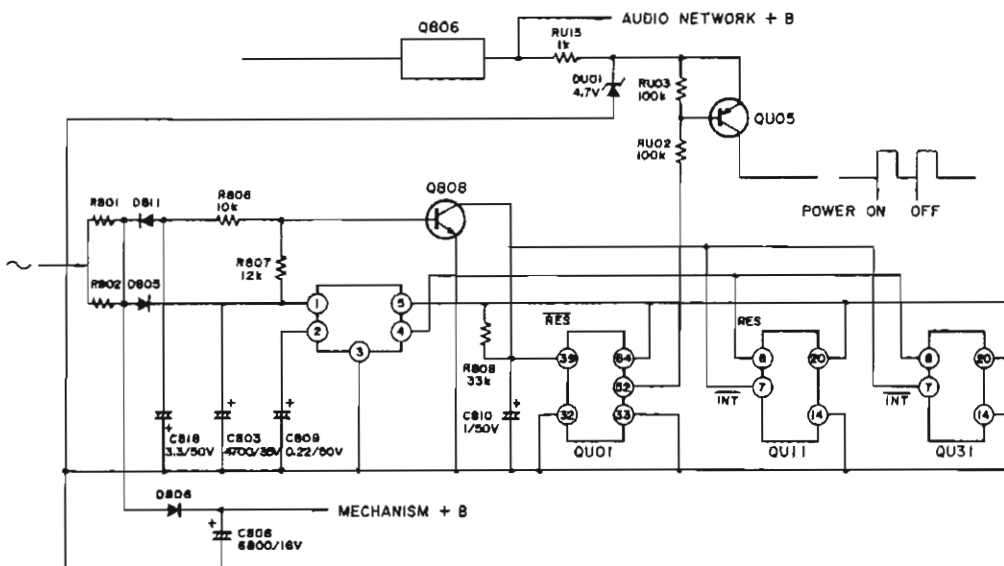
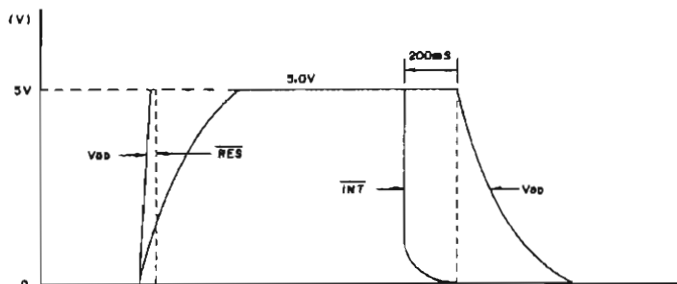

Figure 4
Figure 5
Figure 5 shows the leading and trailing characteristics of each VDD, INT and RES pin of the feature control microprocessor (QU01), mechanism control microprocessor (QU11, QU31), and figure 4 shows its diagram. Each timing is important for the normal function the microprocessors.
- a) Check the waveform of QU11 pin ⑥.
- b) Check the rising characteristics of VDD,  $\overline{\text{INT}}$  and  $\overline{\text{RES}}$ . When they go high with the rising characteristics shown in Fig. 5, they are normal.